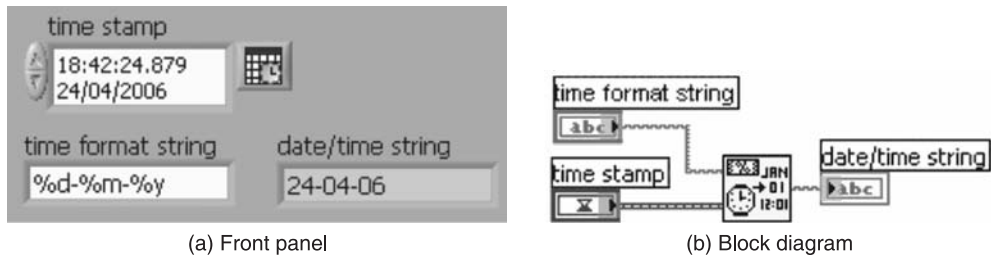

Figure P9.3
**Solution** Build the front panel and the block diagram to solve the problem as shown in Figures P9.3(a) and P9.3(b).